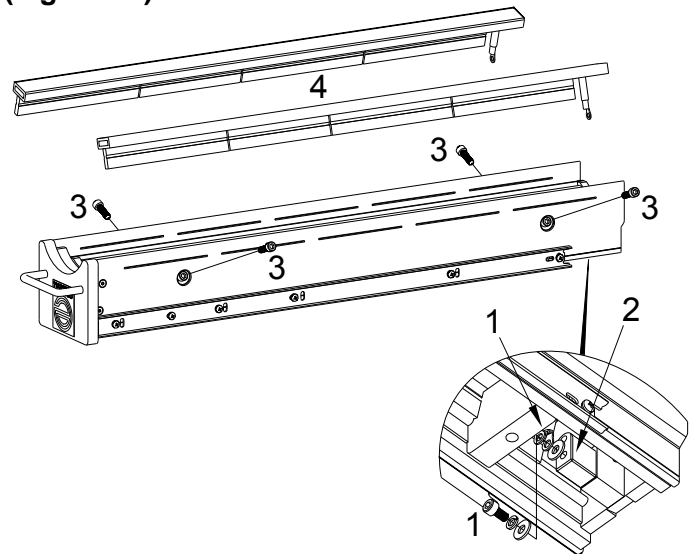

Figure 34
To remove either of the electrodes first, disconnect the HV wires (1) from the HV contact block (2) (Figure 34).